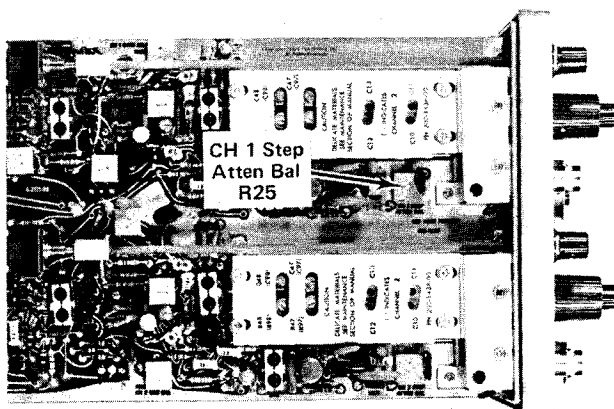

Fig. 5-10. Location of CH 1 Step Atten Bal adjustment.
- d. ADJUST—CH 1 Step Atten Bal adjustment, R25, (see Fig. 5-10) for minimum trace shift when rotating the CH 1 VOLTS/DIV switch from 20 mV to 5 mV.